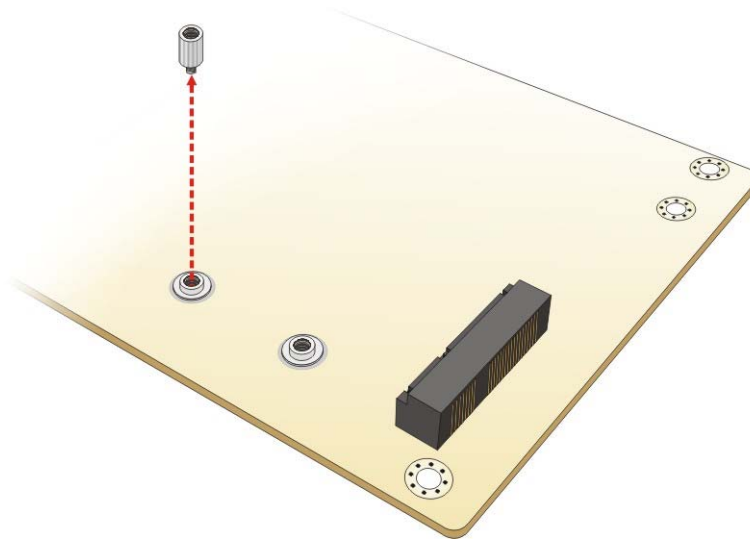

Figure 4-8: Removing the Standoff
Step 3: Remove the standoff. Unscrew and remove the standoff secured on the motherboard as shown in **Figure 4-8**.